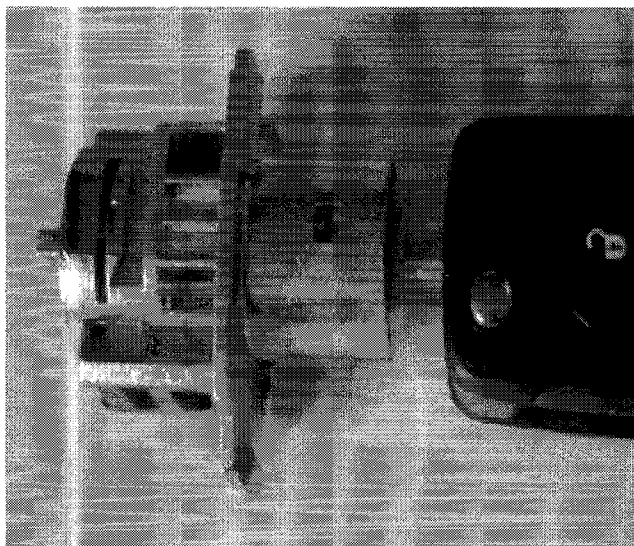

Fig. 4 Lock Cylinder Assembly With The Key
6. Insert the ignition key into the lock cylinder (Fig. 4).